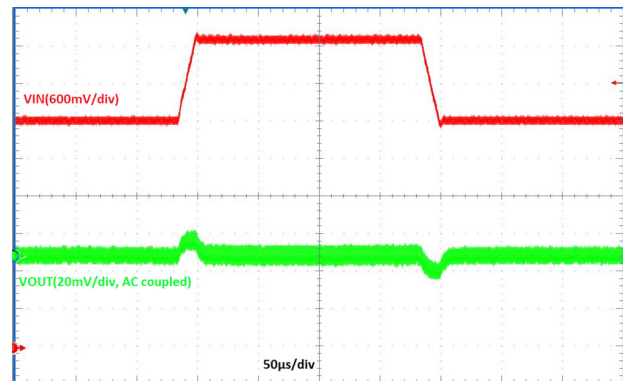

Figure 19. Line Transient,  $V_{IN} = 3.8\text{ V} \leftrightarrow 5\text{ V}$ ,
6. Refer to Fig. 19 Typical Derating Curve for additional IOUT(MAX) guidance.